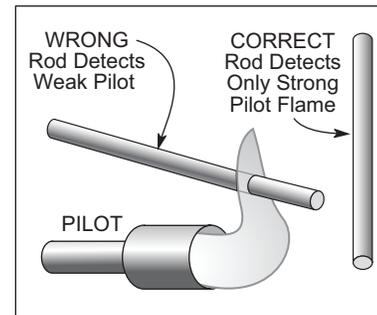

Figure 6.1. Flamerod Position
2. Position the rod into the side of both the pilot and main flames, preferably at a descending angle to minimize drooping of the flamerod against burner parts, see Figure 6.1. Flamerod position must adequately detect the pilot flame at all burner draft conditions. Extend the rod 13 mm (1/2 inch) into non-luminous flames, such as blue flames from burning an air/gas mixture. For partially luminous flames, such as atmospheric air/gas mixtures, place the rod at the edge of the flame.